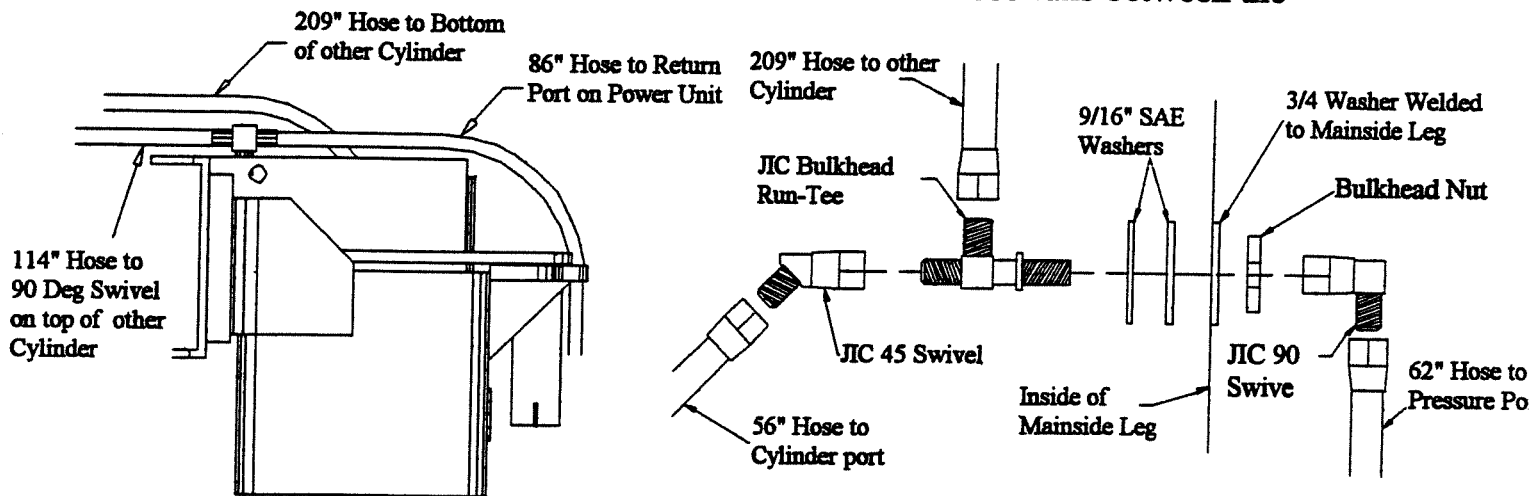

FIGURE 12
25. On the back of the mainside leg there are two holes near the top. On the bottom hole, attach the hydraulic fittings as shown in Figure 12. Two 9/16" SAE washers are used as spacers in the bulkhead fitting installation.
26. Figure 12 shows the hose installation. The 114" hose runs between the